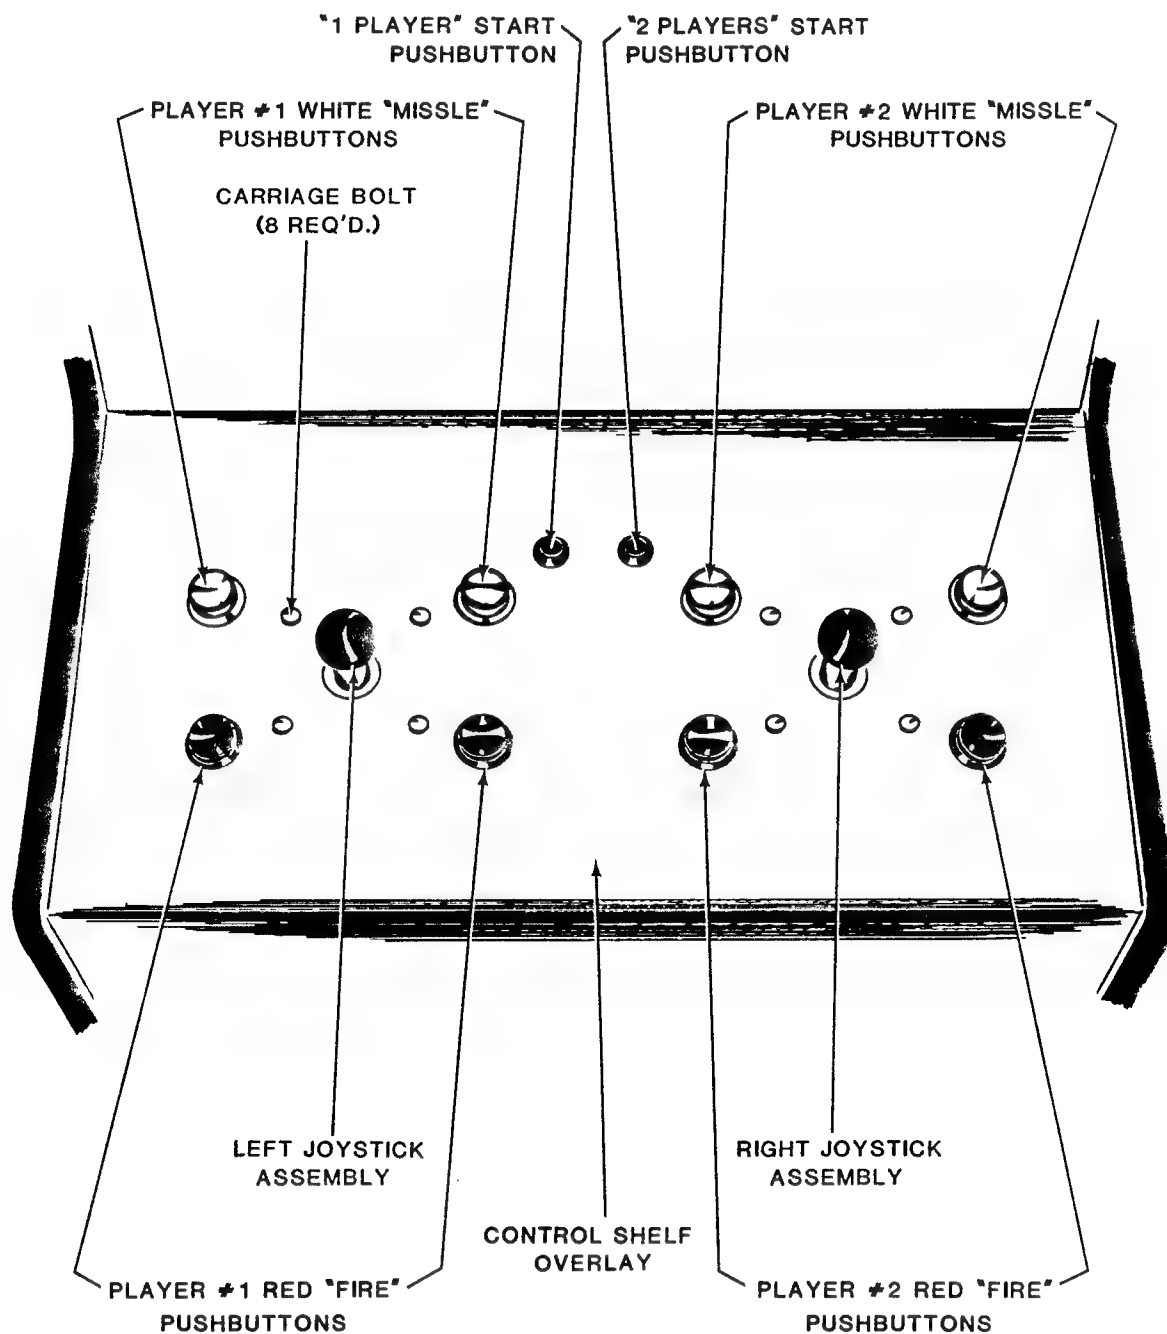

FIGURE 5. CONTROL PANEL ASSEMBLY - FRONT VIEW
* NOT SHOWN IN FIGURE 5 ON PAGE 22.